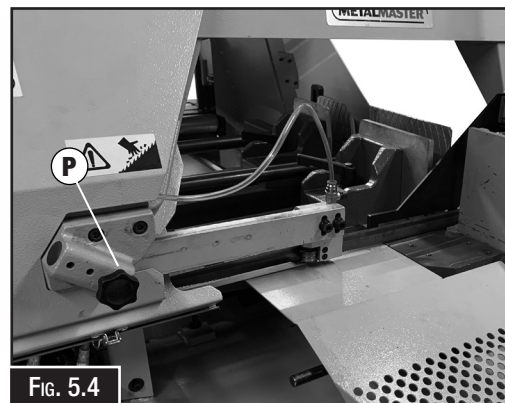

FIG. 5.4
11. Adjust left hand blade guide arm as close to work piece as possible (P in Fig. 5.4)